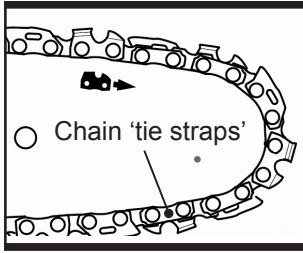

Fig. 6a
- b). Use the screwdriver end of the multi tool to turn the chain tension screw in a clockwise direction until the chain "tie straps" are just touching the bottom edge of the guide bar. The correct chain tension is reached when the chain can be lifted by approx. 2-4 mm from the chain bar in the centre. This should be done by using one hand to lift the chain against the weight of the machine. (See Fig.6a & 6b)